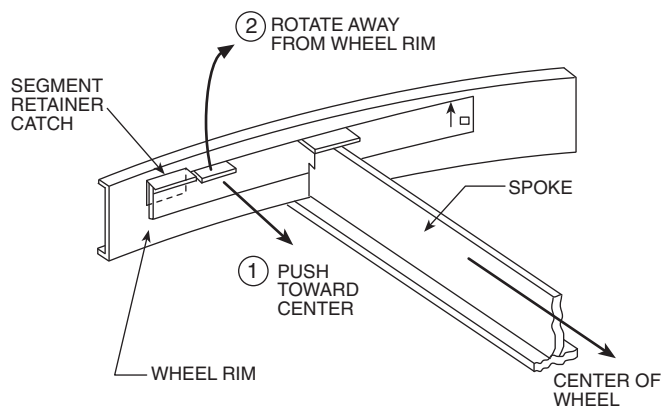

Fig. 188 — Segment Retainer
2. Before applying power to the drive motor, confirm that the wheel segments are fully engaged in the wheel frame and that the segment retainers are completely fastened. (See Fig. 188.)
4. If the wheel has difficulty starting, turn the power off and inspect for excessive interference between the wheel surface and each of the four (4) diameter seals. To correct, loosen the diameter seal adjusting screws and back adjustable diameter seals away from the surface of the wheel, apply power to confirm that the wheel is free to rotate, then re-adjust and tighten the hub and diameter seals according to the instructions in the Service section.